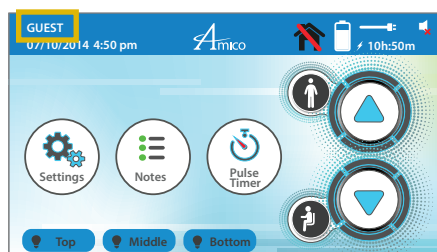

Figure 8
1. Access login screen by pressing the top left corner of the home screen on the Advanced Control Interface (**Figure 8**).